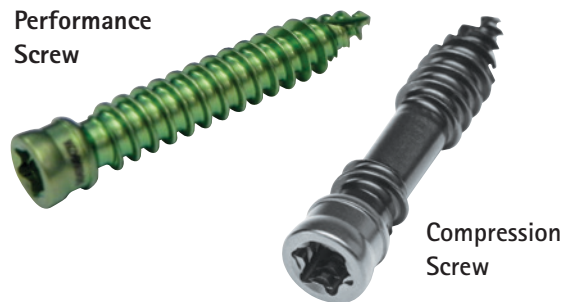

Fig. 11b
- Both 4.7 diameter screw options feature a hexalobe screw head design (Figure 11b).